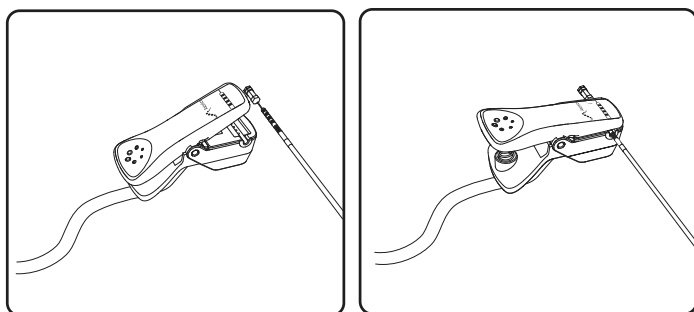

Figure 15. Connect the lead stimulation cable to the tined lead
10. Connect the tined lead test stimulation cable to the lead (**Figure 15**). Using the CP, ensure electrical connections are made with all 4 contacts